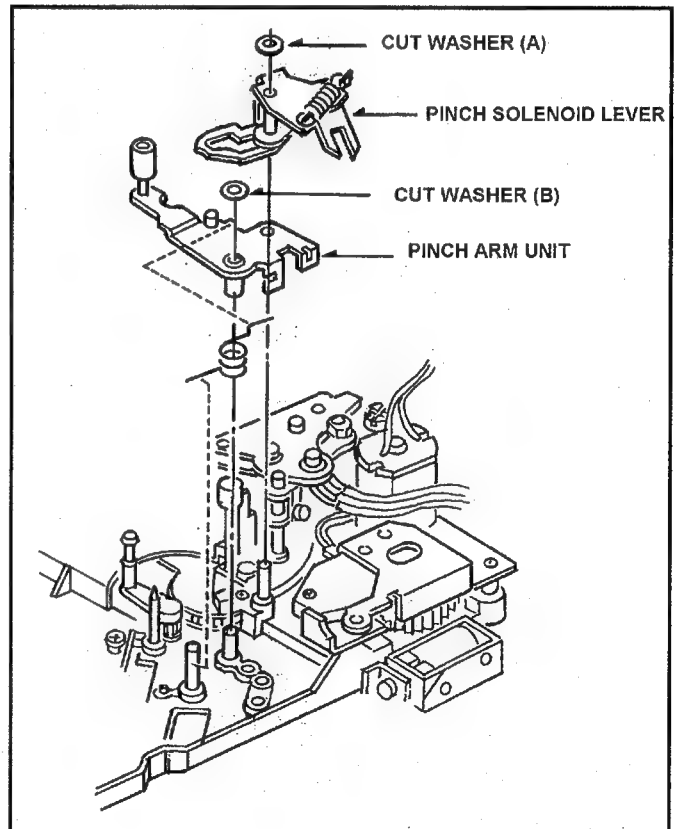

Fig. 10-5-1 Removal of Pinch Arm Unit
4. Remove the Pinch Solenoid Unit (Refer to item 10-9, and pull up the Pinch Solenoid Lever as shown in Figure 10-5-1.
5. Remove the **cut washer (A)** to remove the Pinch Solenoid Lever as shown in Figure 10-5-1.
6. Remove the **cut washer (B)** to remove the Pinch Arm Unit as shown in Figure 10-5-1.